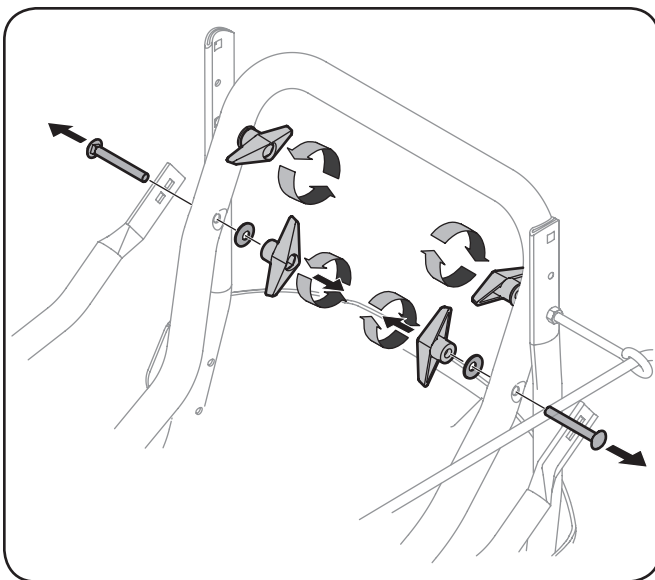

Fig. 3-1
- Remove the lower handle knobs, washers and carriage bolts (and support tubes if equipped) from each side of the lower handle. See Figure 3-1.